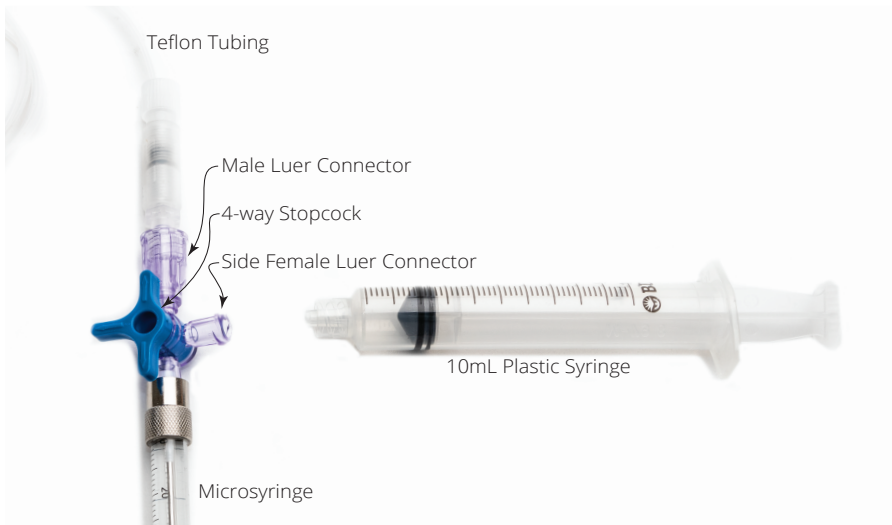

Fig. 3—Fluid injection components
- (1) Digital Micrometer Head (model **DMP** only), packed separately to reduce risk of damage during shipment. To install, slide it all the way onto the hole in the adjustable micrometer mount, then attach the syringe piston mount bracket as shown in Fig. 3. Tighten the screws on the side of the syringe bracket and micrometer mount with the tool provided.